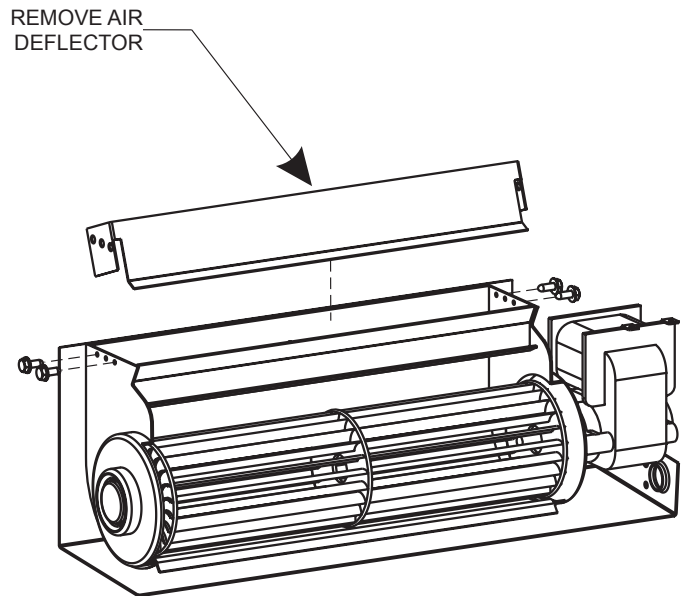

Figure 5
2. Remove air deflector by removing the four screws securing it to the blower assembly, and discard. See Figure 5.